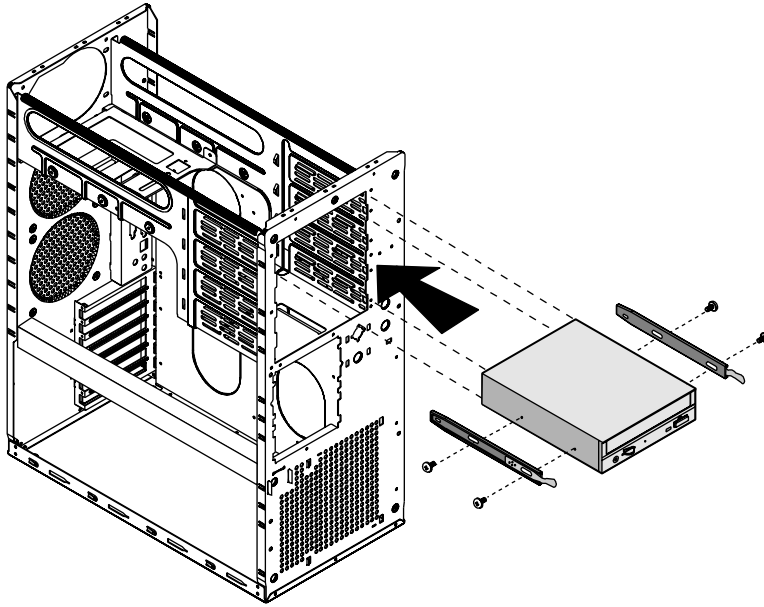

Figure 25: Installing a Drive in the 5.25-Inch Drive Bay
9. Align the guide rails with the rail guides in the drive bay and slide the drive all of the way into the bay. The tabs on the rails will click into place when the drive is fully inserted (see Figure 25).